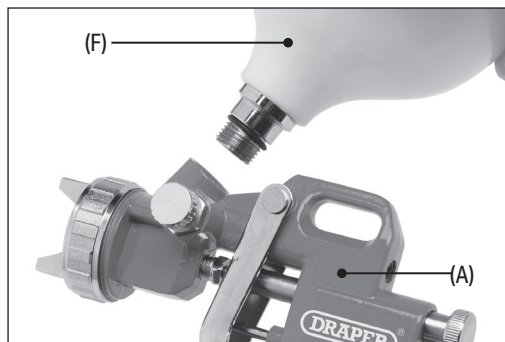

Fig. 2
1. Attach the appropriate cup to the correct thread on the tool body (Fig. 2):
- a. When using the spray paint gun (A), attach the paint cup (F) to the uppermost thread on the tool body.
- b. When using the cleaning gun (B), attach the suction cup (G) to the downward thread at the top of the tool body.